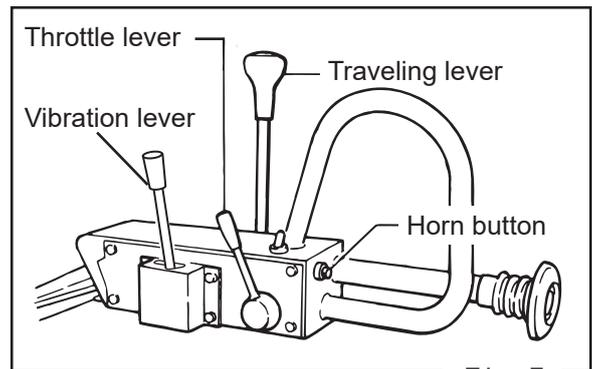

Fig. 7
- Check each lever and wire (travel, vibration, throttle) for proper function.(Fig.7)
- Press horn button to check for proper function. (Fig.7)
- With throttle lever fully opened, increase the engine rotation. (Fig.7)
- With travel lever and vibration switch placed in neutral and OFF position respectively, return throttle lever to START position before conducting cool down run for 3 to 5 minutes. (Fig.7, 8 )